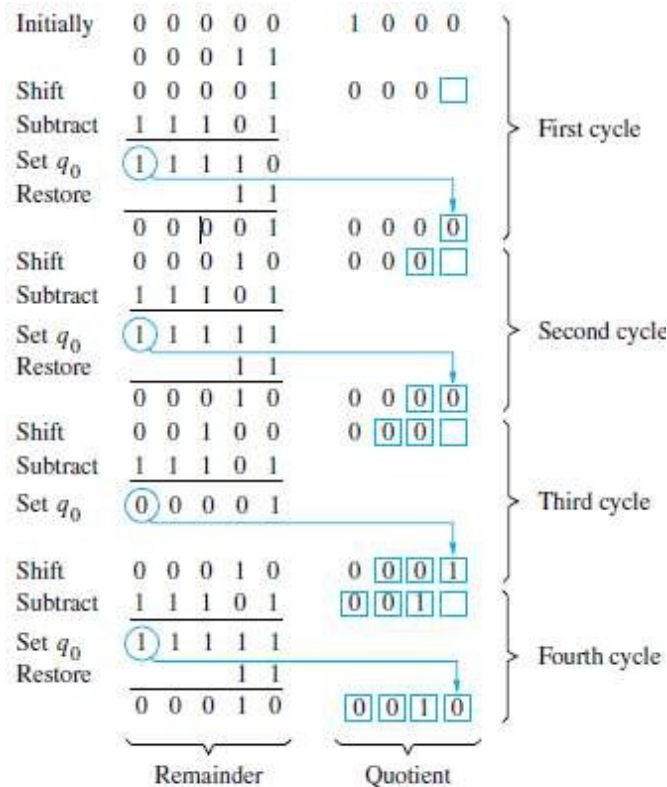

Figure 9.24 A restoring division example.
- The 24-bit mantissa provides a precision equivalent to about 7 decimal-digits (Figure 9.24).